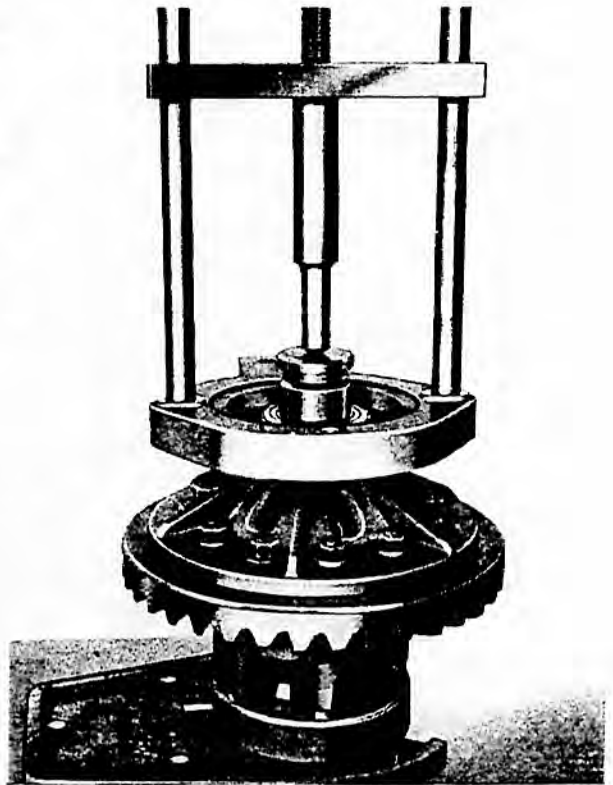

FIG. 21. REMOVING DIFFERENTIAL BEARING CONES
3. Remove differential bearing cones using Service Tool M-F 200 with suitable adaptors, as shown in Figs. 21 and 22.